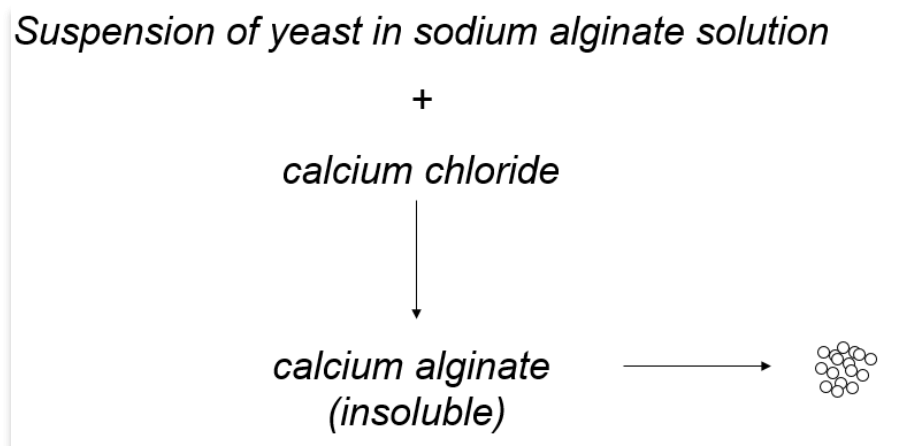

Figure 1. Gilson syringe (available from Griffin Education)1.
- Syringe (Gilson, 10 cm3 or similar - see Figure 1) to contain alginate/yeast mixture